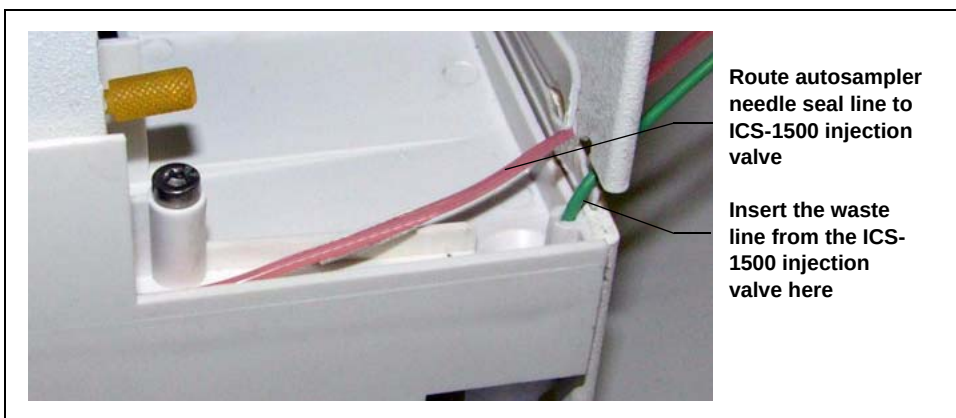

Figure B-39. Autosampler Drip Tray
3. The needle seal line that extends from the inject port in the autosampler is coiled inside the autosampler door, on the right side. Route this line through the autosampler right side slot (see Figure B-39) and the ICS-1500 left side slot to the ICS-1500 injection valve.
6. Push the end of the green **AS/AS50 TRAY** line into the small round opening on the right side of the AS or AS50 (USB) tray (see Figure B-39).